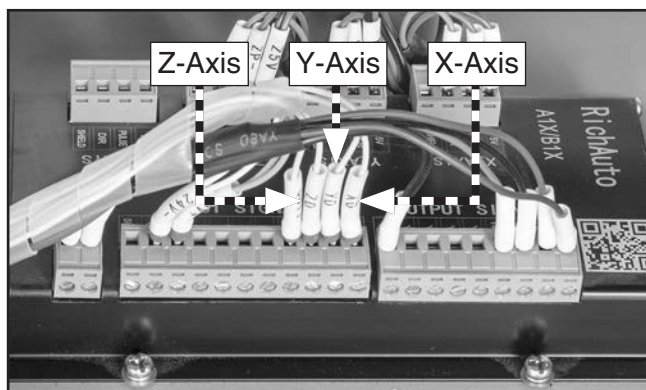

Figure 47. Interface board limit switch axes.
7. Swap faulty axis limit switch input wire on interface board (see **Figure 47**) with any one of the known good axes input wires (X1=X-axis, X2=Y-axis, X3=Z-axis).